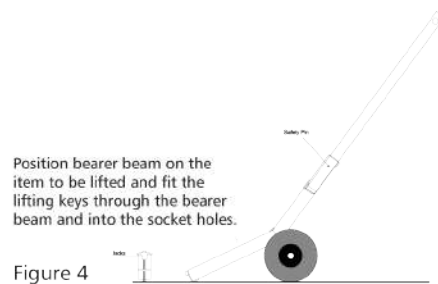

Figure 4
4. The device can now be maneuvered into position, the front section should be located under the handle of the bearer beam (Figure 4).